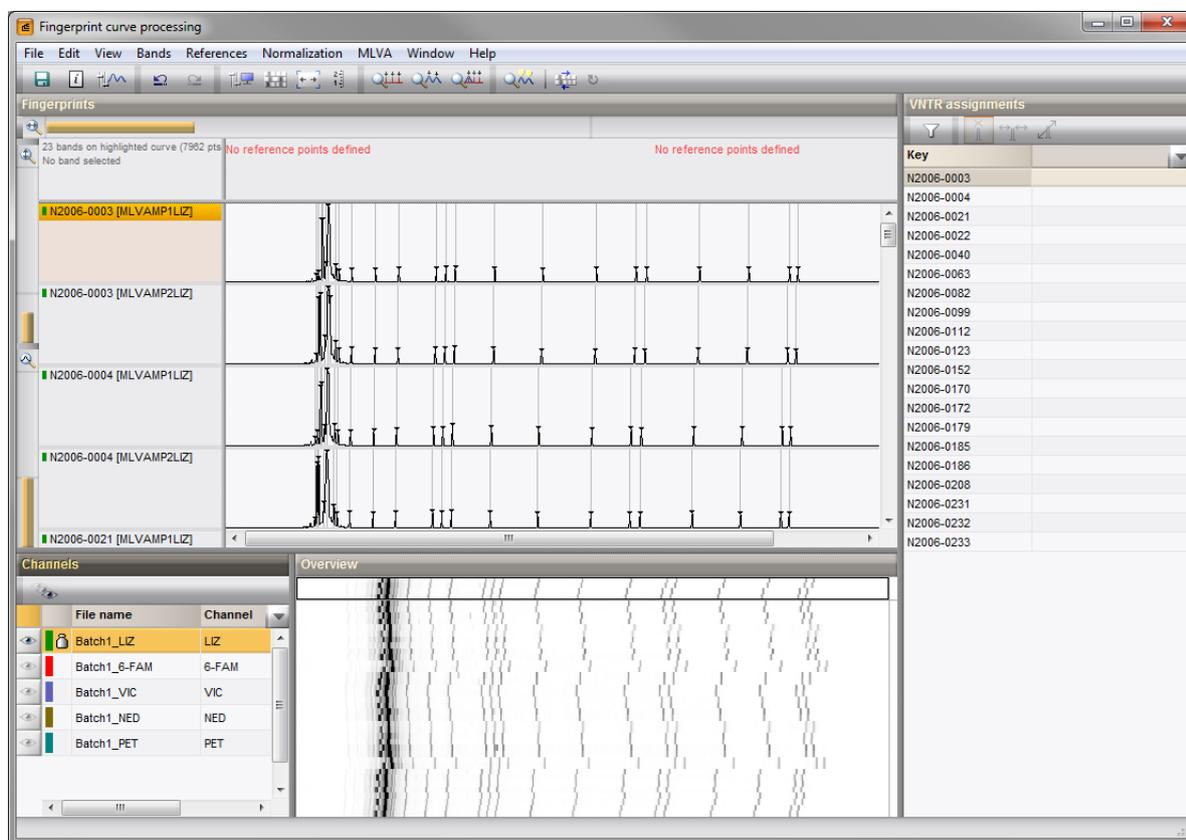

Figure 9: The *Fingerprint curve processing* window only displaying the reference dye.
3. Make sure the reference dye is the only dye visible in the upper panel (see Figure 9).
The bands that fall within the specified criteria are marked with a solid line at the band's position (see Figure 9).